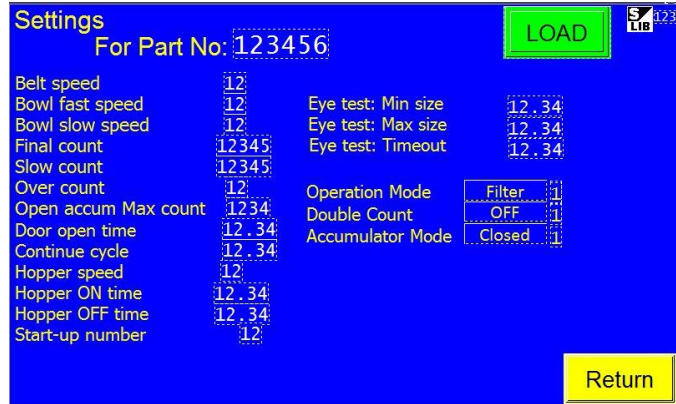

Figure 3-10
**Job Recall Function:** To recall a job that has already been saved, press the field that has your part number displayed. Then press the **View** button to display the settings. See Figure 3-10. From this screen, you can run / load the job by pressing the **Load** button.